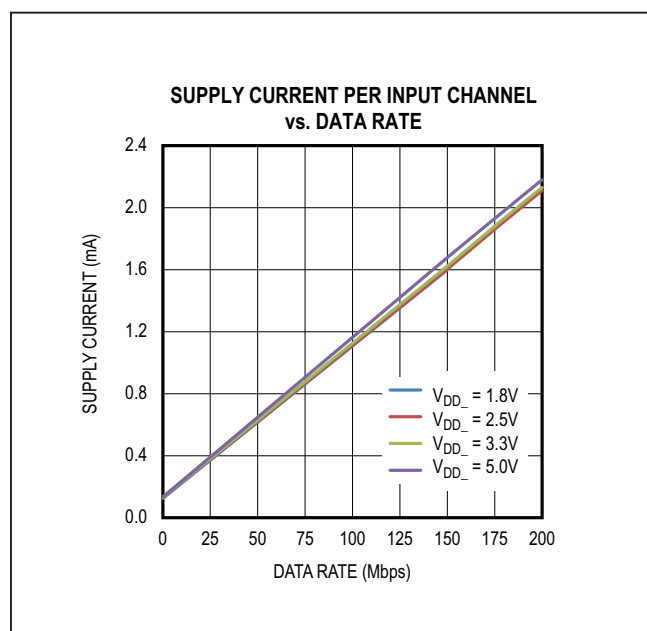
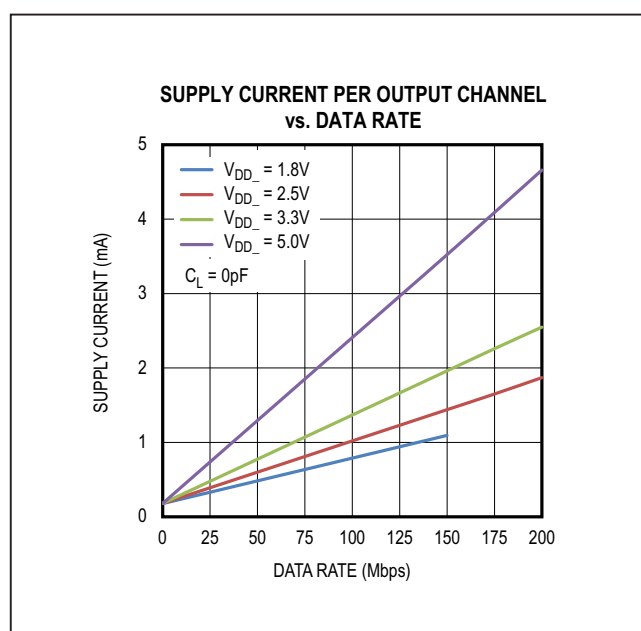

Figure 8. Supply Current Per Input Channel (Estimated)
Figure 9. Supply Current Per Output Channel (Estimated)
The required current for a given supply (V_{DDA} or V_{ddb}) can be estimated by summing the current required for each channel. The supply current for a channel depends on whether the channel is an input or an output, the channel's data rate, and the capacitive or resistive load if it is an output. The typical current for an input or output at any data rate can be estimated from the graphs in Figure 8 and Figure 9. Please note the data in Figure 8 and Figure 9 are extrapolated from the supply current measurements in a typical operating condition.
The total current for a single channel is the sum of the “no load” current (shown in Figure 8 and Figure 9) which is a function of Voltage and Data Rate, and the “load current,” which depends on the type of load. Current into a capacitive load is a function of the load capacitance, the switching frequency, and the supply voltage.
- Channel 1 is an input channel operating at 2.5V and 20Mbps, consuming 0.33mA, estimated from Figure 8.
- Channel 2 and 3 are input channels operating at 2.5V with DC signal, consuming 0.13mA, estimated from Figure 8.
- Channel 4 is an output channel operating at 2.5V and 100Mbps, consuming 1.02mA, estimated from Figure 9.
- Channel 1 is an output channel operating at 3.3V and 20Mbps, consuming 0.42mA, estimated from Figure 9.
- Channel 2 and 3 are output channels operating at 3.3V with DC signal, consuming 0.18mA, estimated from Figure 9.
- Channel 4 is an input channel operating at 3.3V and 100Mbps, consuming 1.13mA, estimated from Figure 8.